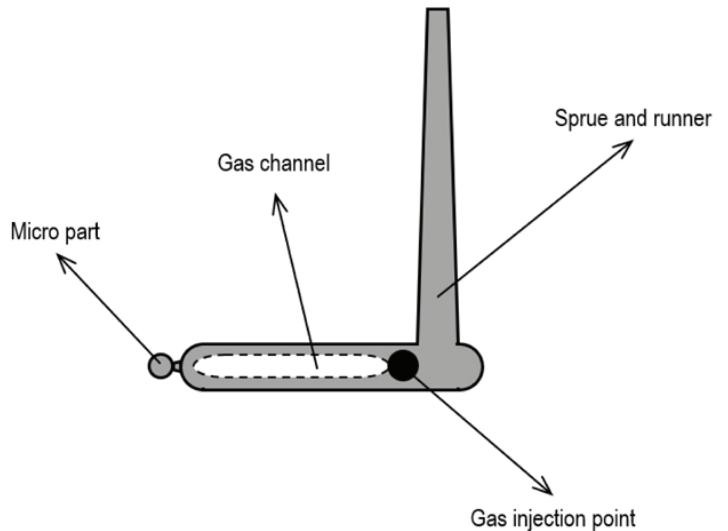

Figure 11: Gas-assisted injection molding process at solid short-fat-like micro part.
(1) For solid short-fat-like micro part without core-out structure, the gas injection point is placed at runner so that gas is controlled to low in runner only and stop before melt gate, the closer the better (**Figure 11**). In such a case, the part is filled with the melt pushed by the gas. It is packed and held by the gas, too, right from outside of the melt gate.